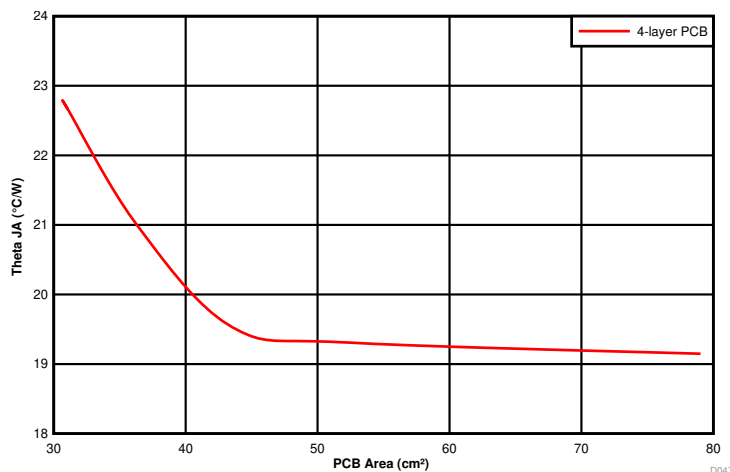

图 47. $R_{\theta JA}$ versus PCB Area (per Layer)
The amount of PCB copper affects the thermal performance of the device. 图 47 shows the effects of copper area on the junction-to-ambient thermal resistance ($R_{\theta JA}$) of the TPSM53604. The junction-to-ambient thermal resistance is plotted for a 4-layer PCB with PCB area from 30 cm² to 80 cm².
3. Reference 图 47 to determine the minimum required PCB area for the application conditions.